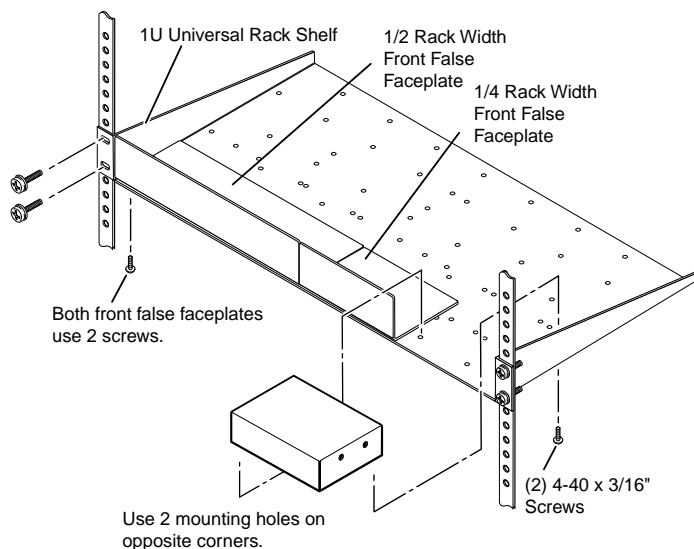

Figure 2-2 — Mounting the transmitter or receiver unit on a standard rack shelf
- RSU 129 9.5" deep 1U universal rack shelf kit (part #60-190-01) (figure 2-2 on the next page)